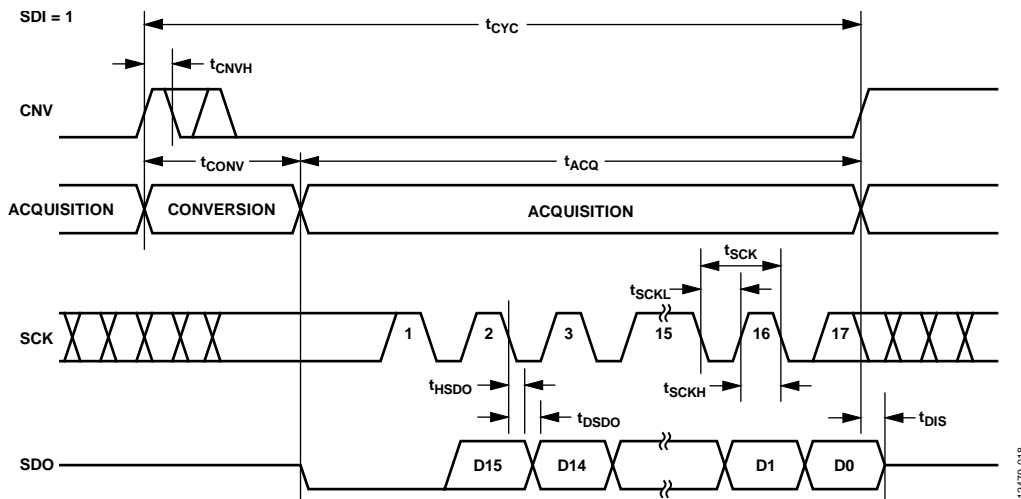
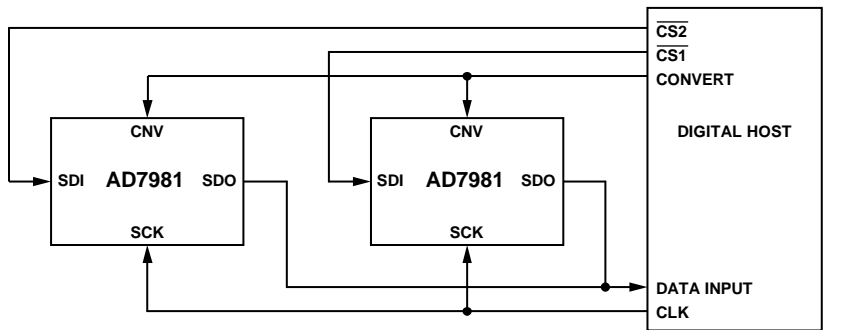
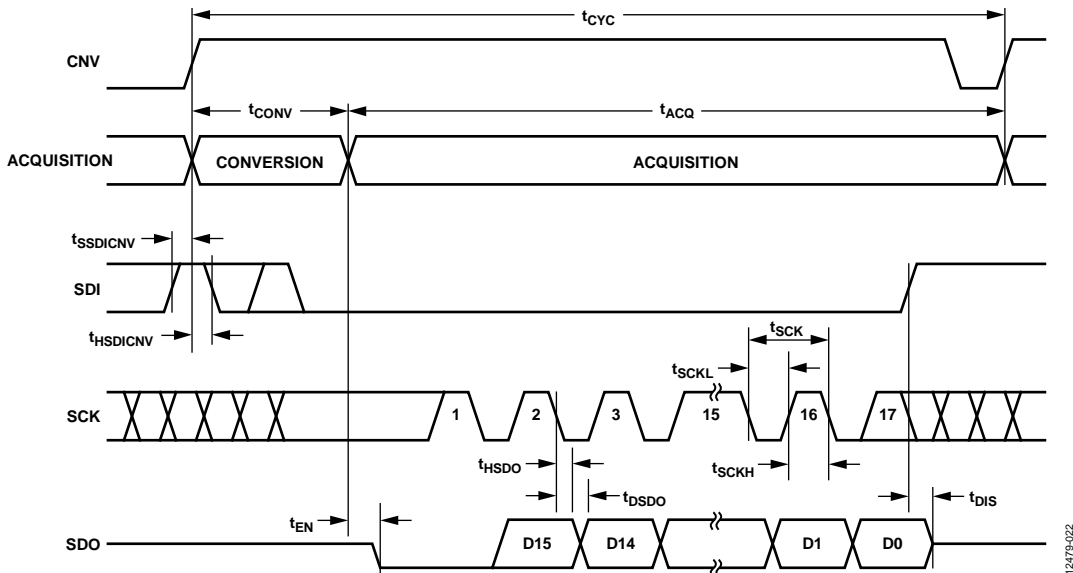
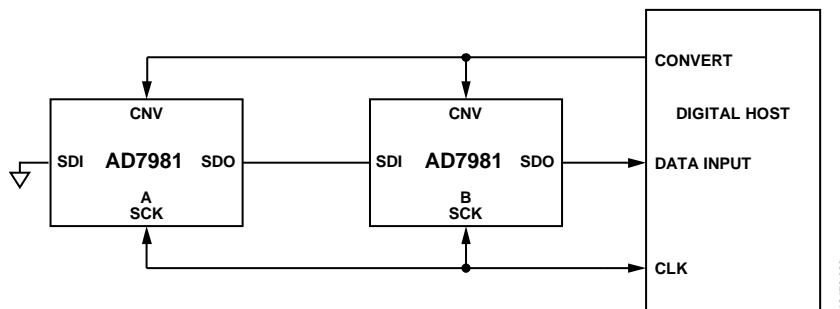

Figure 44. 3-Wire  $\overline{CS}$  Mode with Busy Indicator Serial Interface Timing (SDI High)
Figure 45. 4-Wire  $\overline{CS}$  Mode Without Busy Indicator Connection Diagram
Figure 48. 4-Wire  $\overline{\text{CS}}$  Mode with Busy Indicator Serial Interface Timing
Figure 49. Chain Mode Without Busy Indicator Connection Diagram
- In  $\overline{\text{CS}}$  mode if CNV or SDI is low when the ADC conversion ends (see Figure 45 and Figure 49, respectively).
The 3-wire  $\overline{CS}$  mode with a busy indicator is typically used when a single AD7981 is connected to an SPI-compatible digital host having an interrupt input. The connection diagram is shown in Figure 44, and the corresponding timing is given in Figure 45.
The connection diagram is shown in Figure 48, and the corresponding timing is given in Figure 49.